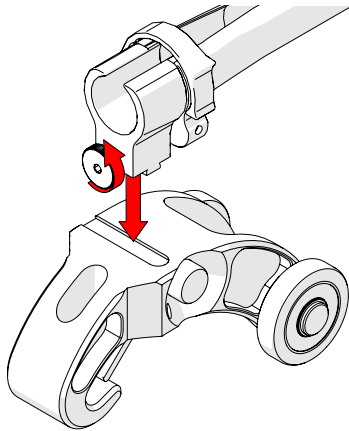

Fig. 58 - Loosen and slide on
1. Loosen the knob on the cable management dovetail mount. Position the mount onto the Dovetail QuickLink (Fig. 58).